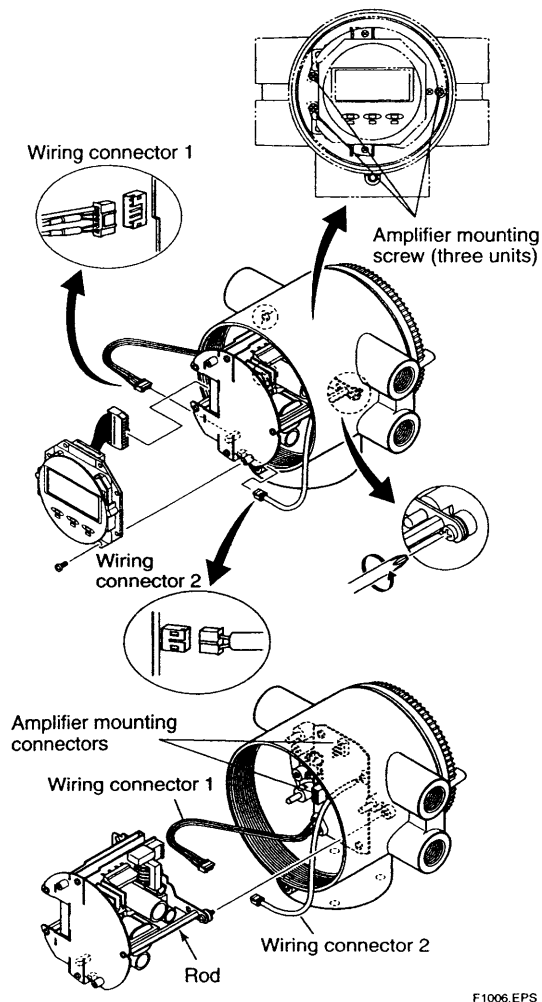

Figure 10.1.6 Assembling the Amplifier
- (1) Turn off the power.
- (2) Remove the cover.
- (3) Remove wiring connectors 1 and 2 (refer to Figure 10.1.6) from the amplifier assembly. Remove them carefully, without applying excessive force.
- (4) Loosen the three mounting screws while holding the assembly with your hand.
- (5) Pull the assembly straight out.